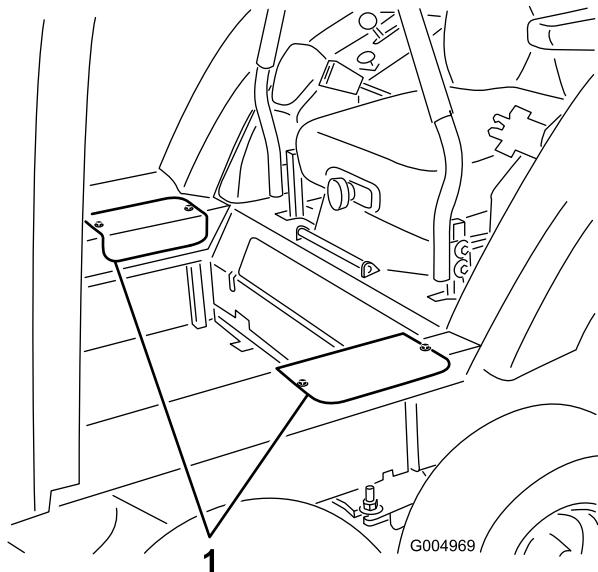

Figure 52
14. Remove the two screws securing each side access cover and remove the covers (Figure 52).